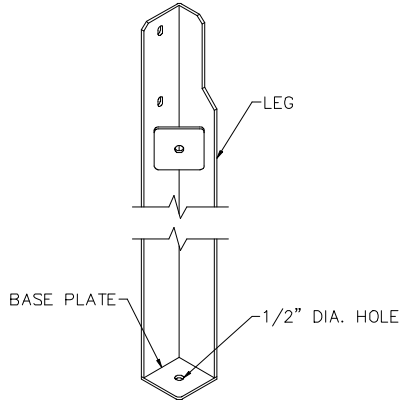

FIG. 2A
- When the legs have been completely installed each leg should be bolted to the ground using the hole provided in the base plate of the leg (see FIG. 2A).